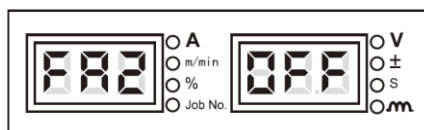

Figure 3-32 Screen for FA2 display
1. Enter the internal menu, adjust the knob on the panel of welding power source to **FA2**, the digital tubes will display as shown in Figure 3-32.